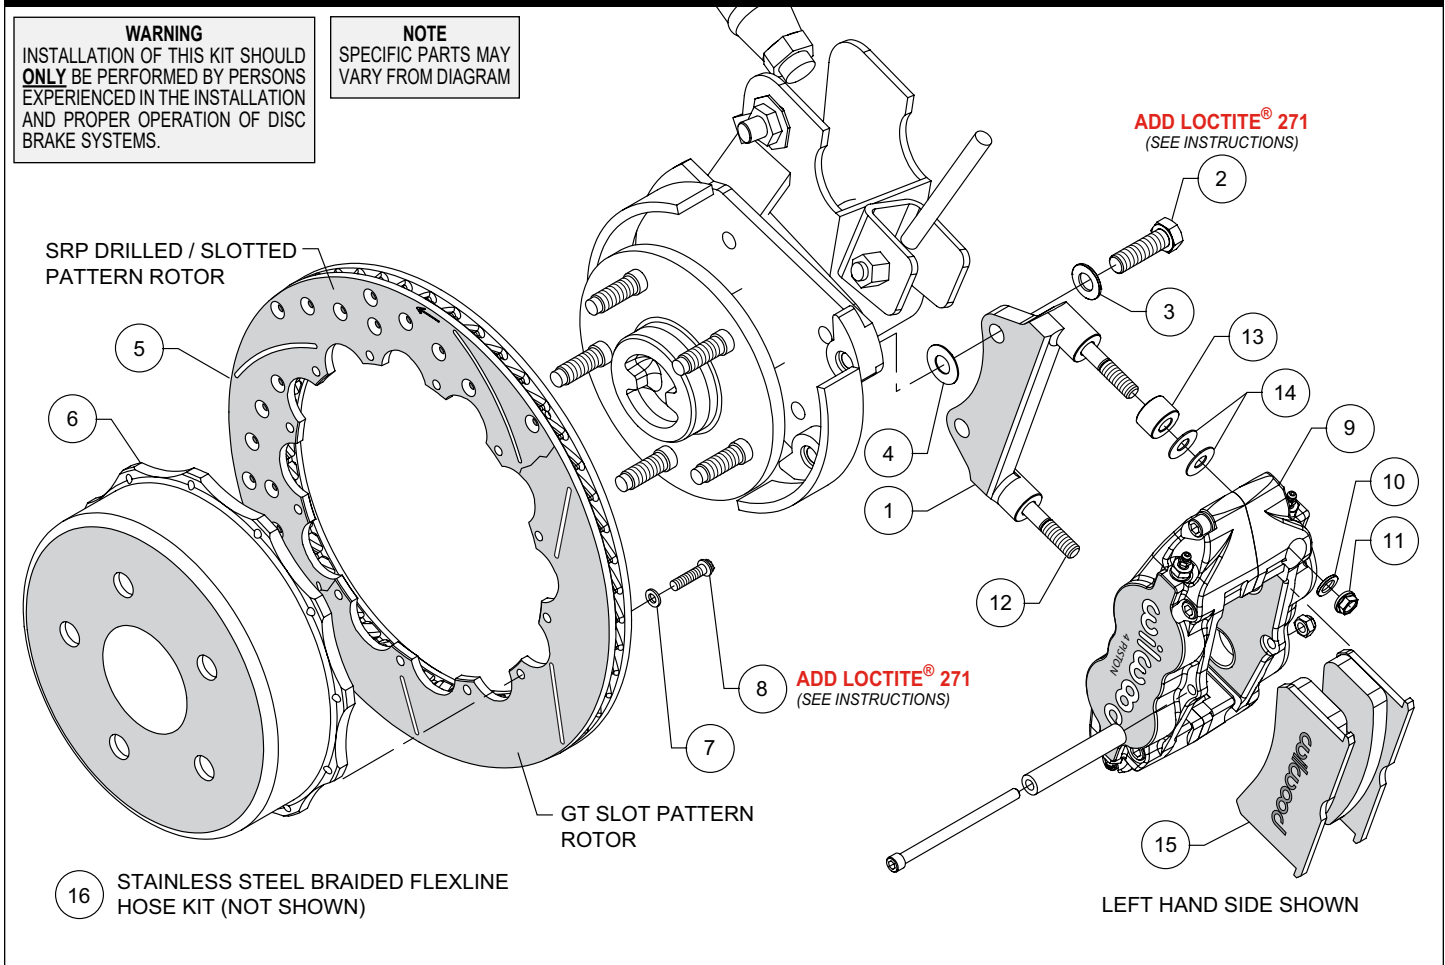
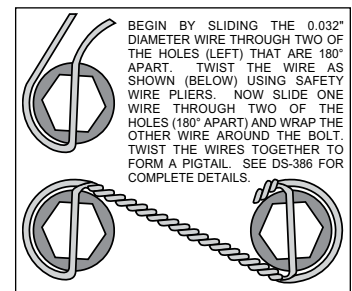

Figure 1. Typical Installation Configuration
Figure 3. Safety Wire Diagram
**Assembly Instructions** (numbers in parenthesis refer to the parts list and Figure 1 on the preceding pages):
•The caliper mount bracket (1) should initially be installed with clean, dry threads on the mounting bolts. Orient the bracket as shown in Figure 1, and install using mount bolts (2) and washers (3). Initially place one .033" thick shim (4) on each bolt between the bracket and upright, Figure 1. Temporarily tighten the mounting bolts. **NOTE:** The bracket must fit squarely against the mount bosses on the upright. Inspect for interference from casting irregularities, machining ridges, burrs, etc. Later, after the caliper alignment has been checked, the mount bolts will be secured using red *Loctite*® 271.
•Orient the rotor (5) and the hat (6) as shown in Figure 1 and Photo 2. Attach rotor to hat using bolts (8) and washers (7). Apply red *Loctite*® 271 to the bolt threads and torque to 140 in-lb using a criss-cross pattern. The bolts must be safety wired using standard 0.032 inch diameter stainless steel safety wire as shown in Figure 3. Please refer to Wilwood's data sheet DS-386 (available at [www.wilwood.com/Pdf/DataSheets/ds386.pdf](http://www.wilwood.com/Pdf/DataSheets/ds386.pdf)) for complete safety wire installation instructions.
•Initially place one spacer (13) and two .035" thick shims (14) on each stud (12) as shown in Figure 1 and Photo 4. Mount the caliper (9) onto the bracket (1) using lock nuts (11) and washers (10), Figure 1. Temporarily tighten the lock nuts and view the rotor through the top opening of the caliper. The rotor should be centered in the caliper, Photo 5. If not, adjust by adding or subtracting shims (4) between the bracket and the mounting bosses. Always use the same amount of shims on each of the two mounting bolts. Once the caliper alignment is correct, remove the bracket mounting bolts one at a time, apply red *Loctite*® 271 to the threads, and torque to 60 ft-lb.